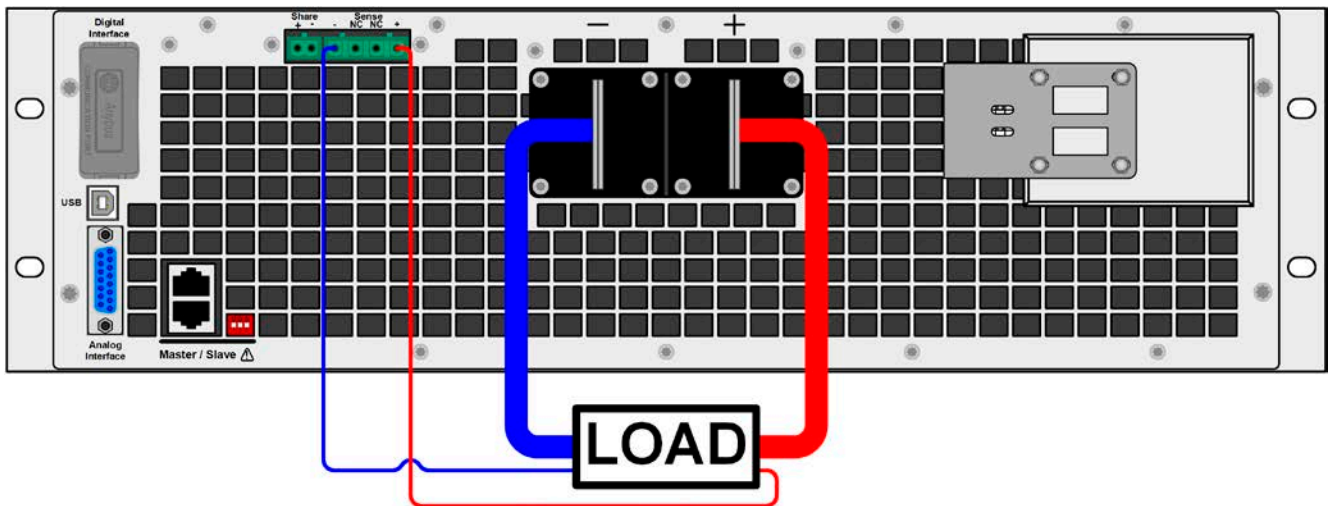

Figure 12 - Example for remote sensing wiring
- Remote sensing is only effective during constant voltage operation (CV) and for other regulation modes the sense input should be disconnected, if possible, because connecting it generally increases the oscillation tendency
- The + sense cables must be connected to + on the load and - sense to - at the load, otherwise the sense input of the power supply can be damaged. For an example see *Figure 12* below.